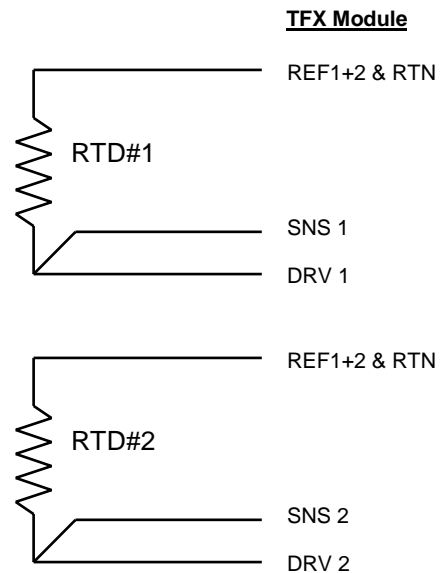

Figure 2
5. Route a cable from the electrical junction box back to the TFX flow-meter. Connect the RTDs as illustrated in Figure 2. Note that the SNS1 and DRV1 wires originate from the same location on the RTD.